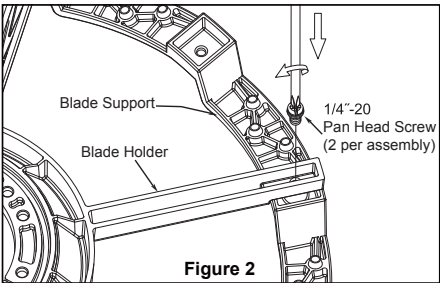

Figure 2
- 2. Position blade support under blade holder and aligning blade support holes with hole in blade holder. Make sure the blade support is fully seated against and install with 1/4"-20 screws. (Figure 2)